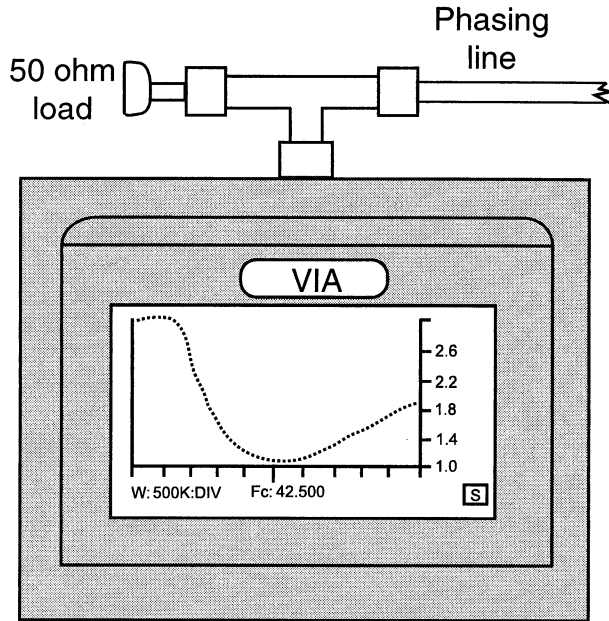

Figure 2
4. Attach the "PL-259" connector to a "T" connector already attached to the Analyst's antenna connector. Attach a 50-ohm load to the other end of the "T" connector (Figure 2).